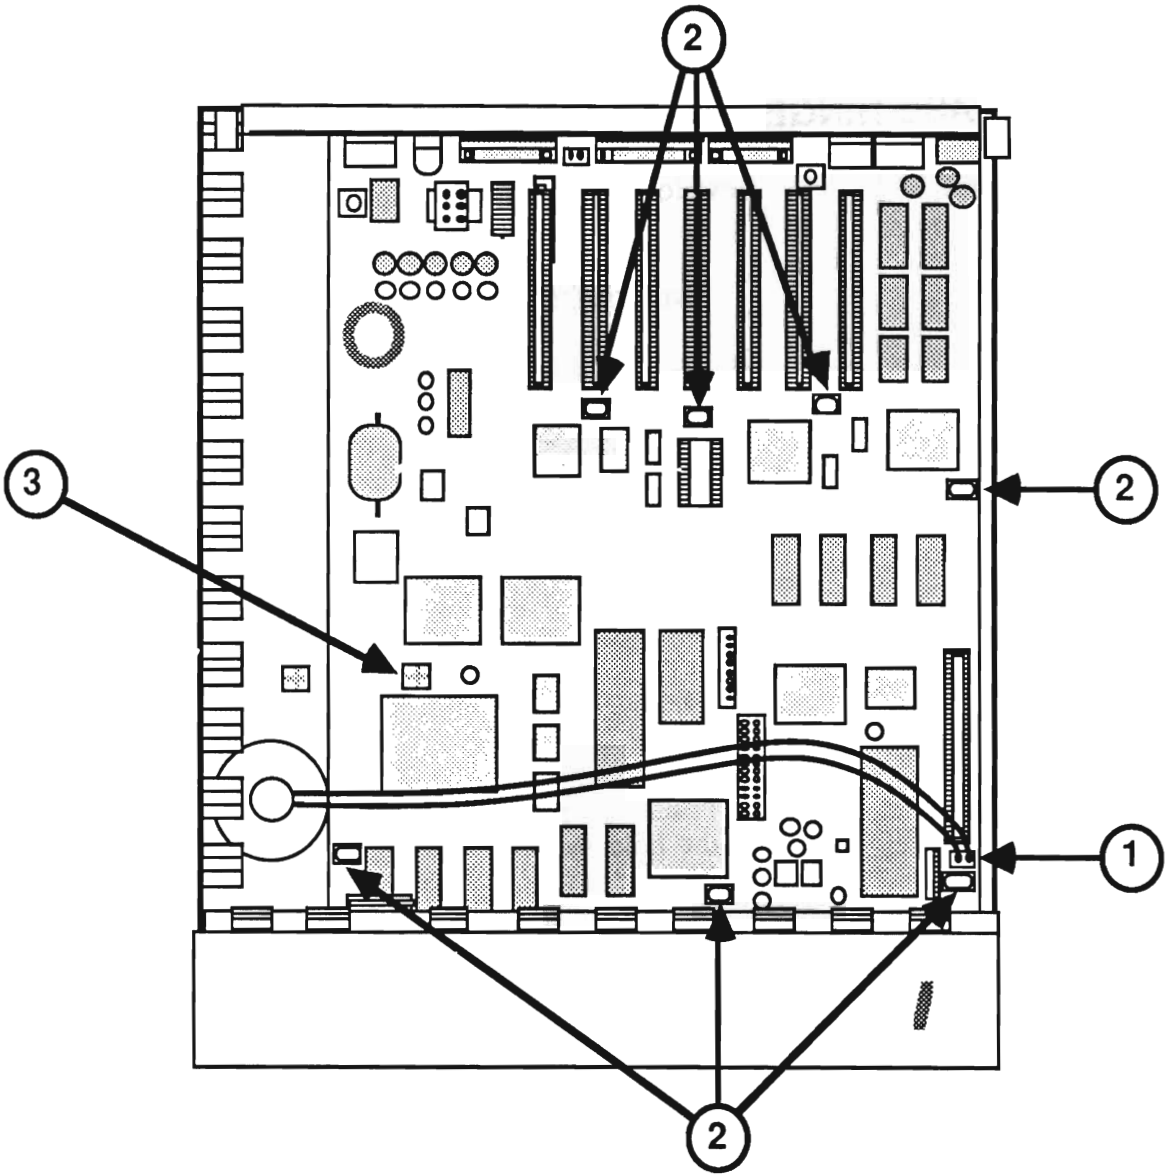
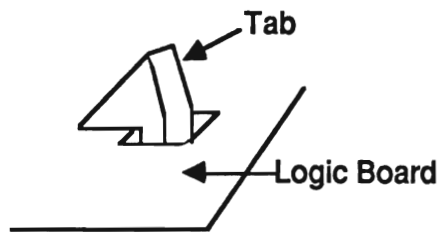

FIGURE 5
FIGURE 5a
4. Disconnect the speaker wire (Figure 5, #1).
5. Locate the seven tabs (Figure 5, #2) that hold the logic board in position.
6. Starting at the front of the board, squeeze each tab (Figure 5a) one at a time, gently lifting the board up as you proceed to the rear of the board. Be sure all seven tabs (Figure 5, #2) have been released.
1. Line up the connectors on the rear of the logic board with the openings on the rear of the case. Be sure to position the board so that the large mounting tab (Figure 5, #3) slips into position.
3. Gently press the board onto the seven tabs (Figure 5, #2).
4. Connect the speaker wire (Figure 5, #1).